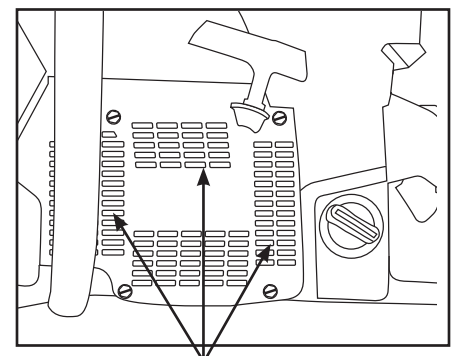

Figure 3
- After each usage, thoroughly flush the starter housing assembly with water. (Figure 3)
- Lubricate the starter pawls by spraying light weight oil into the starter housing through the vents. (Figure 3)